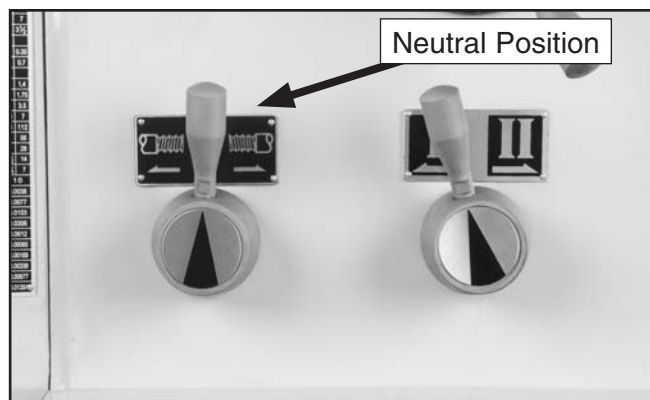

Figure 8. Leadscrew/feedrod direction lever.
4. Move the leadscrew/feedrod direction lever to neutral (**Figure 8**).